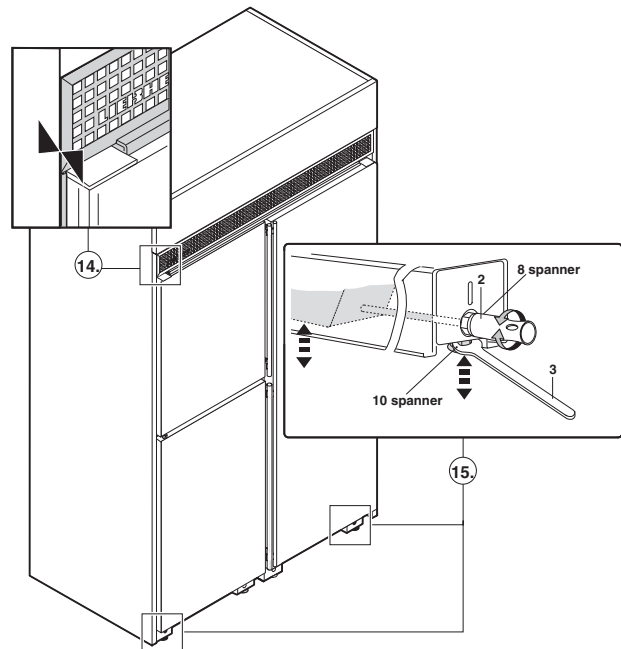

Figure 31
14. **Figure 31:** Carefully slide the connected appliances into the recess until the ventilation grille touches the top.
15. Align the appliances by using only the outer leveling wheels at the front (3) and rear (2).